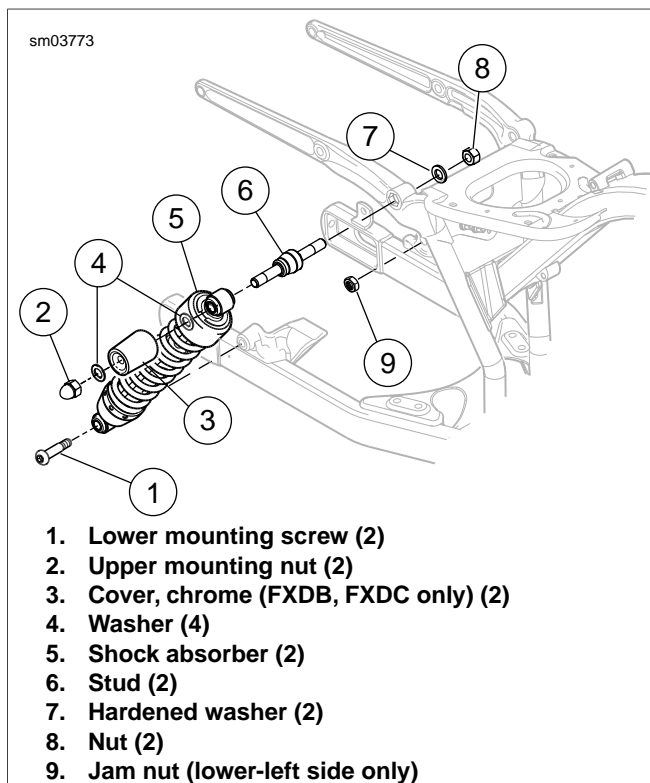

Figure 2-97. Rear Shock Absorber Mounting (Typical)
2. See Figure 2-97. Remove lower shock mount screw (1). Nut (9) is only used on left side.
3. Remove upper shock mount nut (2), outer washer (4), chrome cover (3), inner washer (4), and shock absorber (5).
5. If stud (6) is to be removed, remove nut (8) and washer (7).
1. See Figure 2-97. If removed, install stud (6), hardened washer (7) and nut (8). Tighten to 70-85 ft-lbs (101.7-115.2 Nm).
- a. Apply two to three drops of LOCTITE THREADLOCKER 243 (blue) to threads of bottom bolt (1).
4. Apply two to three drops of LOCTITE THREADLOCKER 243 (blue) to threads of shock mount nut (2).
- a. Install inside washer (4), shock (5), cover (3), (if applicable,) outside washer (4) and upper shock mount nut (2).
- b. Hand tighten nut (2).